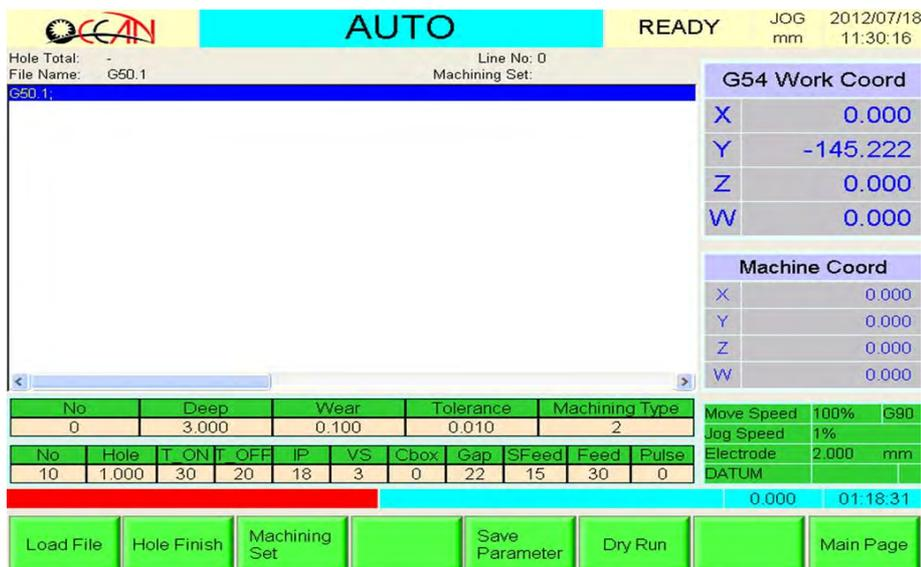

Figure 4-2-1 Auto working mode
Auto mode mainly function is offer operator edit working process at Edit mode after, enter this Auto working mode to execute working program. As following figure 4-2-1.
3. Machine set: this function is setting which area of execute working procedure, when working procedure is all for execution, it is not need to execute this setting job, if only execute some area, it needs this function. If want to execute this function, press Mach Set, enter setting. as follow below figure 4.2.1 working setting.